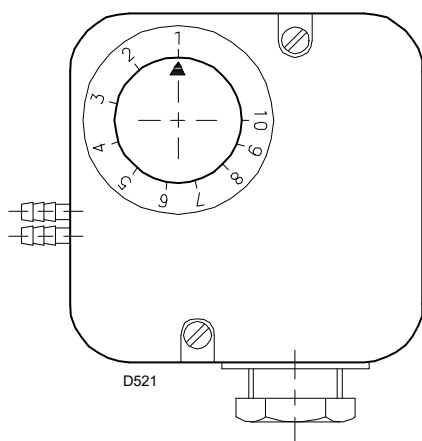

Fig. 24
- Adjust the air pressure switch to the start of the scale (Fig. 24 on page 26).
Adjust the air pressure switch after performing all other burner adjustments with the air pressure switch set to the start of the scale (Fig. 24).